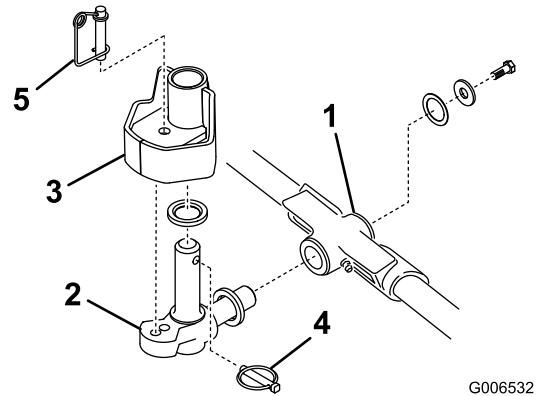

Figure 13
1. Insert a thrust washer onto horizontal shaft of pivot knuckle as shown in Figure 13.
2. Insert the horizontal shaft of the pivot knuckle into the mounting tube of the carrier frame (Figure 13).
3. Secure pivot knuckle to carrier frame with a thrust washer, flat washer, and a flange head capscrew (Figure 13).
4. Insert a thrust washer onto vertical shaft of pivot knuckle (Figure 13).
5. If removed, insert the vertical shaft of the pivot knuckle into lift arm pivot hub (Figure 13).
7. Insert the lynch pin into the cross hole on the pivot knuckle shaft (Figure 13).
Note: If fixed cutting unit position is required, insert steering locking pin into pivot knuckle mounting hole (Figure 13).
13. Hook spring wire around bottom of steering locking pin (Figure 13).